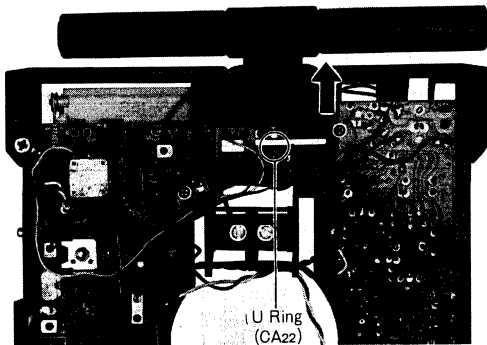

Fig. 8
1. Remove gyro antenna case U ring, as shown in fig. 8.
3. Remove the gyro antenna case in the direction of arrow, as shown in fig. 8.